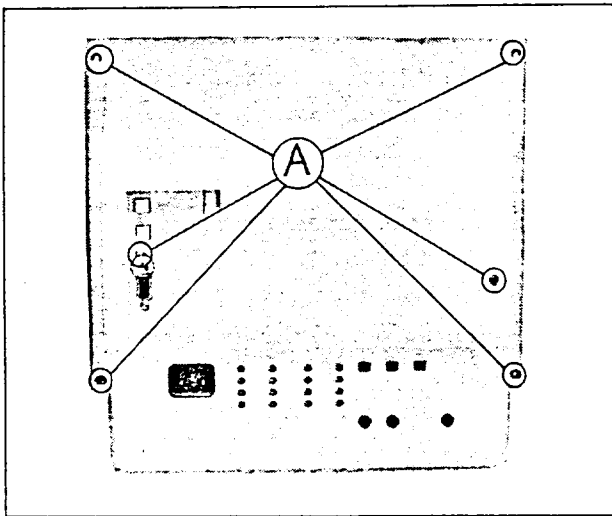

FIG. 1
1. Unplug the power supply cord and unscrew the six screws marked (A) shown in Fig. 1.